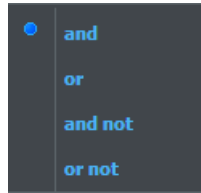

Fig. 2-24: Logical Operator Menu
- **Query area** - where the search queries are built and managed. The first field is a logical operator field, which, in a query composed of only one line, is inactive. From the second row onward this field is activated and enables you to toggle or select one of the relational operators from the menu shown in Figure 2-24.